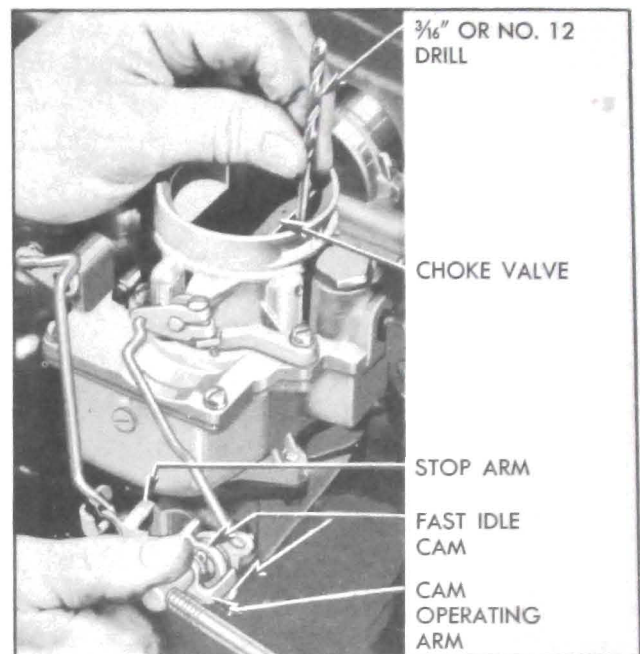

Figure 3-25—Checking Carter Choke Unloader Adjustment
If the engine becomes flooded for any reason, the choke valve can be partially opened by depressing accelerator pedal to the full extent of its travel. This causes a tongue or arm on the throttle lever to contact and rotate the fast idle cam, which forces the choke valve open. See figure 3-25.
4. Open throttle until stop arm on throttle shaft lever contacts boss on body flange, then check clearance between upper edge of choke valve and wall of air horn, using a $\frac{3}{16}$ " gauge (T109-28 or No. 12 drill). See figure 3-25.